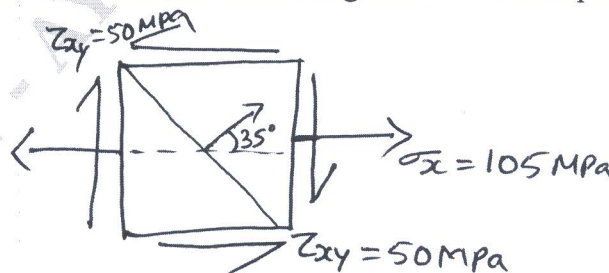

Fig.Q4
- 4 An element is subjected to the stresses shown in Fig.Q4. Using the Mohr's circle, determine: